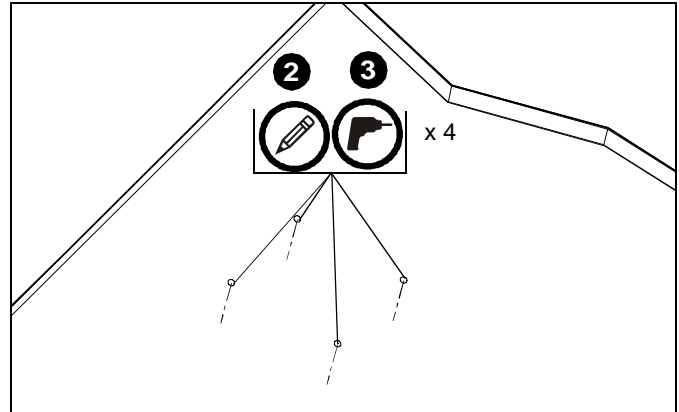

Figure 5
- Using the LPK1 as a guide, mark four mounting hole locations on ceiling. (See Figure 5)
- Drill four 5/16" diameter x 3-1/4" long pilot holes. (See Figure 5)